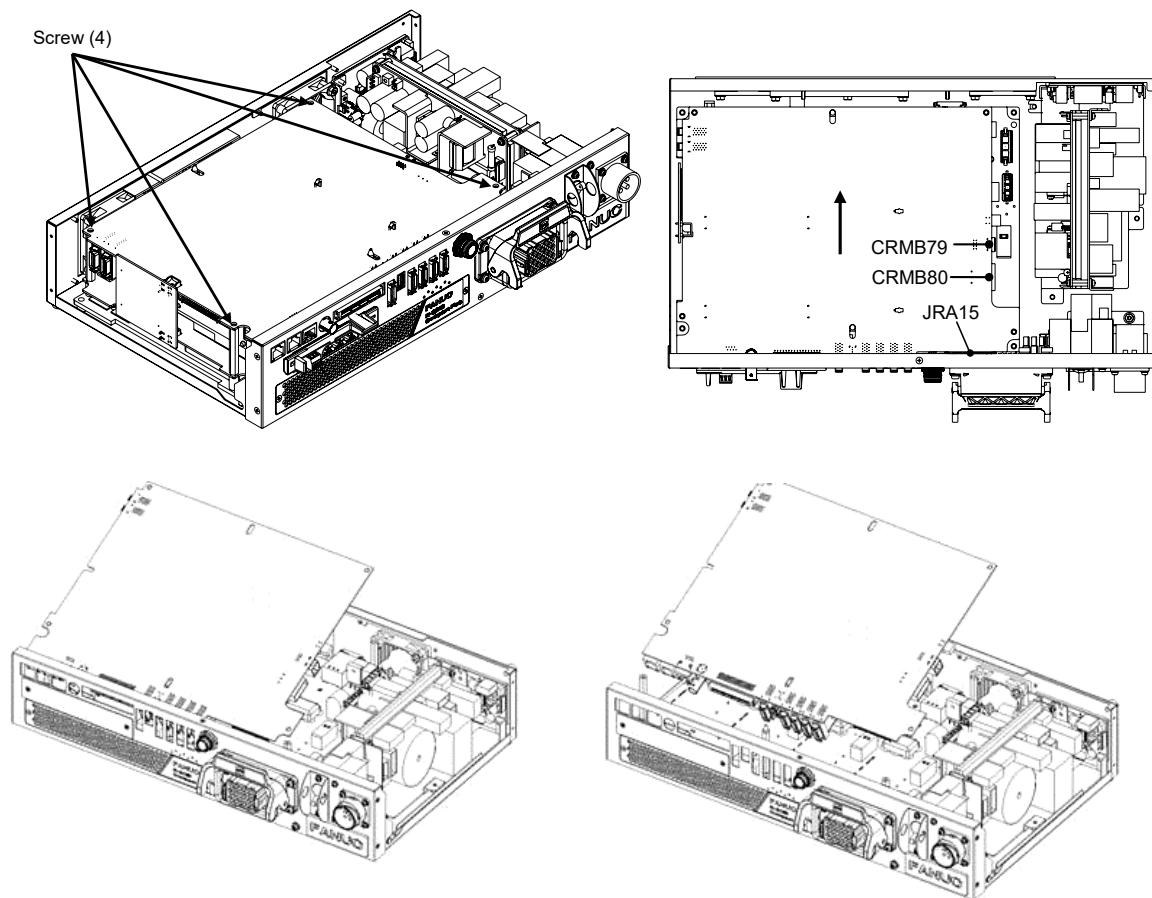

Fig.7.1.3 (a) Removing the main board
- (1) When an option board is installed in the option (mini) slot, remove it.
- (2) Remove the top plate. (See Subsection 7.1.1)
- (3) Remove the side board. (See Subsection 7.1.2)
- (4) Detach cables from the connectors CRMB79 and CRMB80 on the main board, and remove the (4) screws fastening the main board.
- (5) To disconnect JRA15 connector, move the main board slowly in the arrow direction (Fig. 7.1.3).